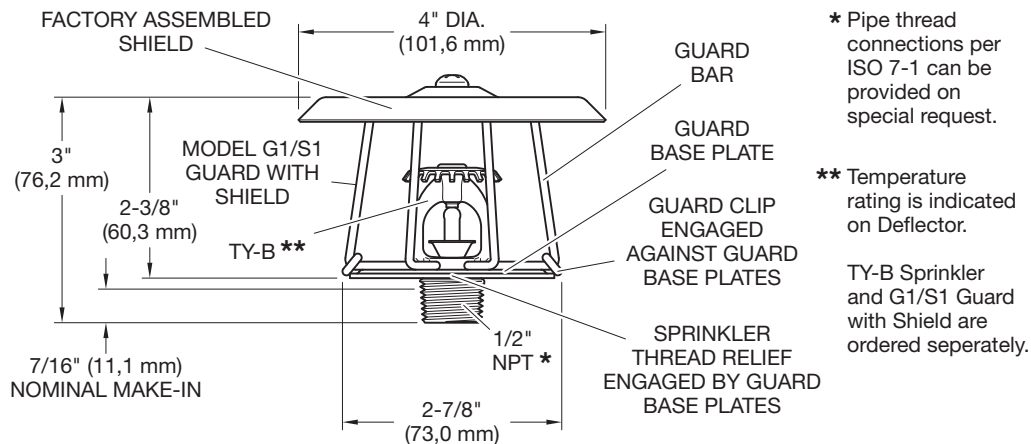

FIGURE 1
Step 2. Tighten the sprinkler into the sprinkler fitting using only the W-Type 6 Sprinkler Wrench shown in Figure 5. Apply the sprinkler wrench to the wrench flats shown in Figure 1.
Step 4. Spread the two halves of the sprinkler base plate enough to pass over the sprinkler thread relief portion of the sprinkler, see Figure 1.
Step 5. With the sprinkler guard positioned on the thread relief portion of the sprinkler, engage the bars with clips from opposing guard halves, then slide the clips down until they are seated against the base plates, completing the installation as shown in Figure 1 and Figure 4.